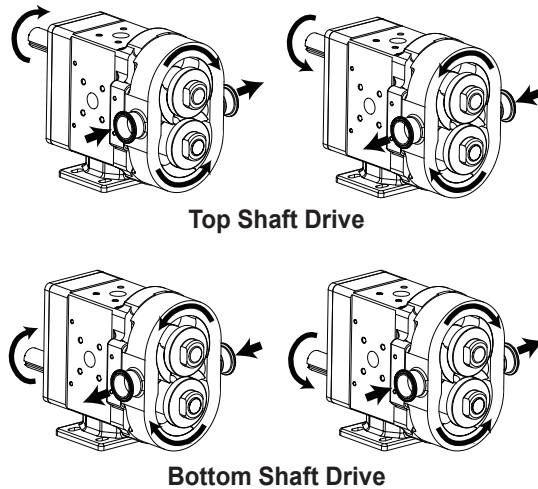

FIGURE 5
10. Jog motor and observe motor coupling to make sure pump will turn in the right direction. Refer to Figure 5.